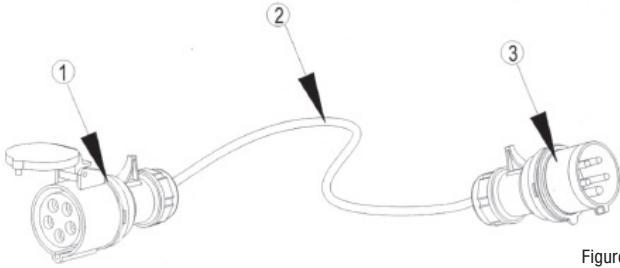

Figure 1
- The user must use the purchased power cable as shown on 'figure 1'. The cable must match the appliance and extend the earth connection. The coupling must be NEN approved.